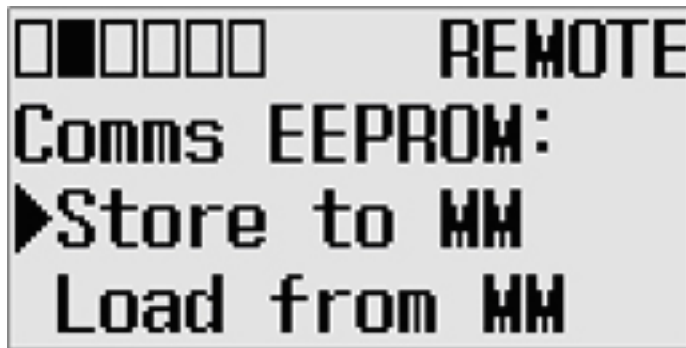

Figure 9 Comms EEPROM Menu Screen
7. Select the "Comms EEPROM" menu and press the "OK" key. The Comms EEPROM Menu Screen will open (refer to Figure 9 Comms EEPROM Menu Screen).